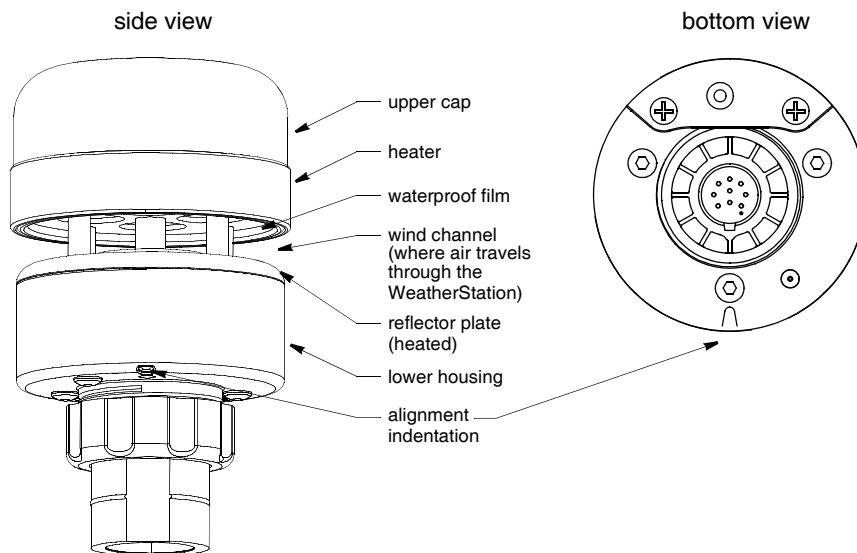

Figure 3. WeatherStation Instrument (120/220WXH shown)
**CAUTION:** The reflector plate and the waterproof film found in the wind channel of the WeatherStation Instrument are essential to its operation (see Figure 3). Be careful not to scratch the plate, puncture the film, or damage them in any way.